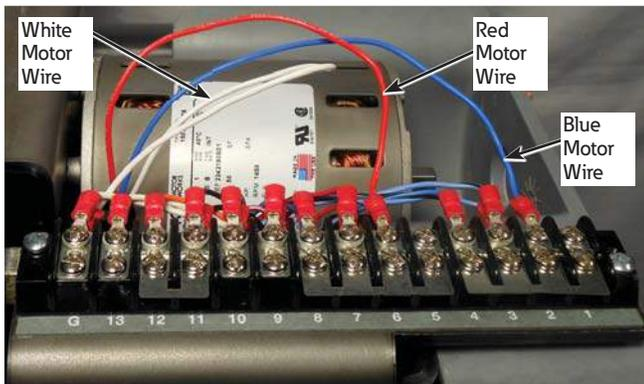

Figure 105. Disconnection of wires
4. Use a Phillips-head screwdriver to disconnect the white motor wire located on terminal "G," the red motor wire located on terminal #6 and the blue motor wire located on terminal #2. See Figure 105.